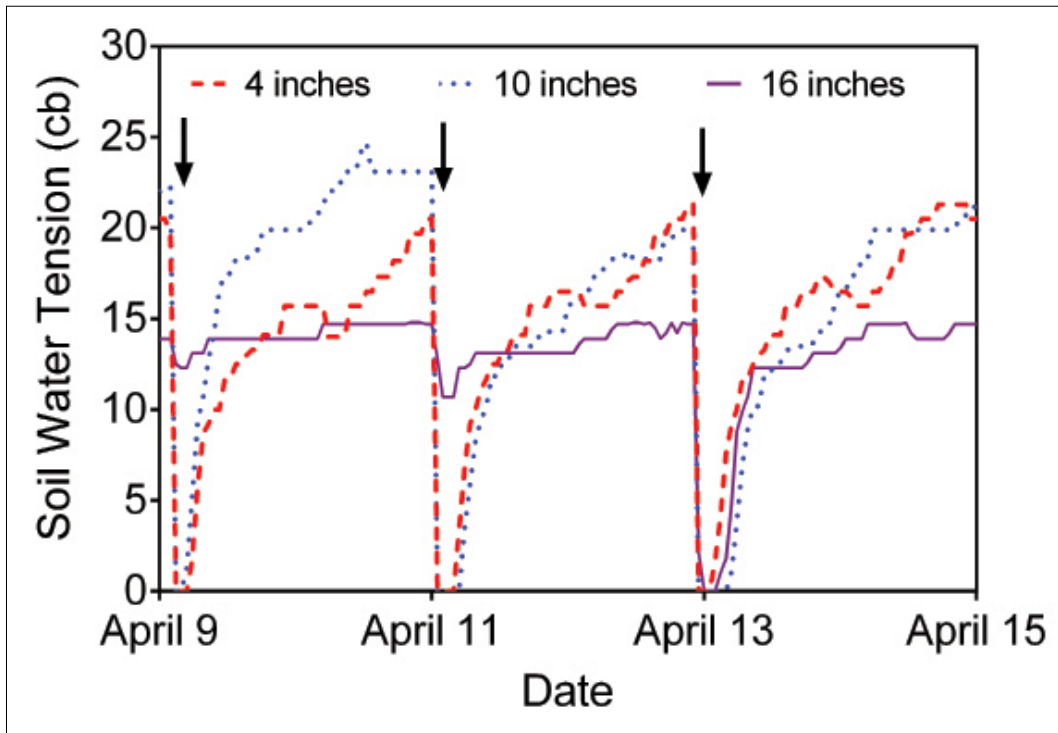

Figure 2. Sample soil moisture data from tensiometers installed at three different depths in a new planting of trees at Pine Tree Ranch.
Figure 2 shows some soil moisture sensor data from tensiometers installed at Pine Tree Ranch on a new planting. Tensiometers measure soil moisture in the form of soil tension—how much force does it take to pull water from the soil, like a root would—and the data are reported in units of centibars (cb). A reading of zero (0) correlates to no tension or soil saturation and numbers increase as the soil becomes drier. For most of our avocado soils, a very dry soil will likely be in the 60 cb range, and it should not be wetter than about 10 cb except following a rain or briefly follow-
You will need to record your soil moisture sensor readings on a regular basis. If it's during the summer, you may want to record the readings daily; during the cooler months of spring or fall you may be able to collect the readings every other day or maybe even every third day. Plot the readings so you can see what is happening like is shown in Figure 2. This is relatively easy to do in Microsoft Excel or Google Sheets and you can find excellent tutorials on how to make simple graphs for both programs on YouTube if you don't know how. Along with your soil moisture sensor data, record the ETo and calculate the ETc for the same period. When your soil moisture sensors start to get into the 30 to 40 cb range you probably want to plan an irrigation. You will also want to add up the ETc values you've recorded so you know how much ET it has taken for your sensors to tell you that you need to irrigate.